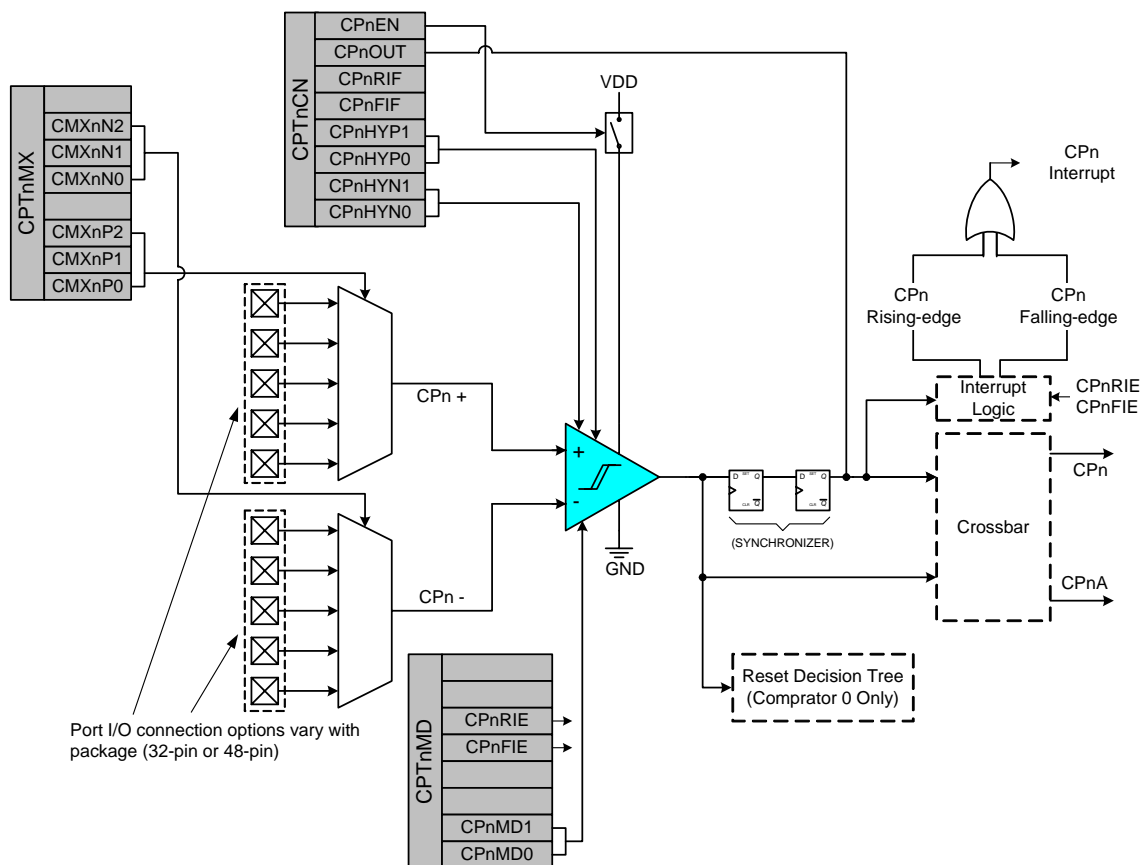

Figure 7.1. Comparator Functional Block Diagram
C8051F340/1/2/3/4/5/6/7/8/9 devices include two on-chip programmable voltage Comparators. A block diagram of the comparators is shown in Figure 7.1, where “n” is the comparator number (0 or 1). The two Comparators operate identically with the following exceptions: (1) Their input selections differ, and (2) Comparator0 can be used as a reset source. For input selection details, refer to SFR Definition 7.2 and SFR Definition 7.5.